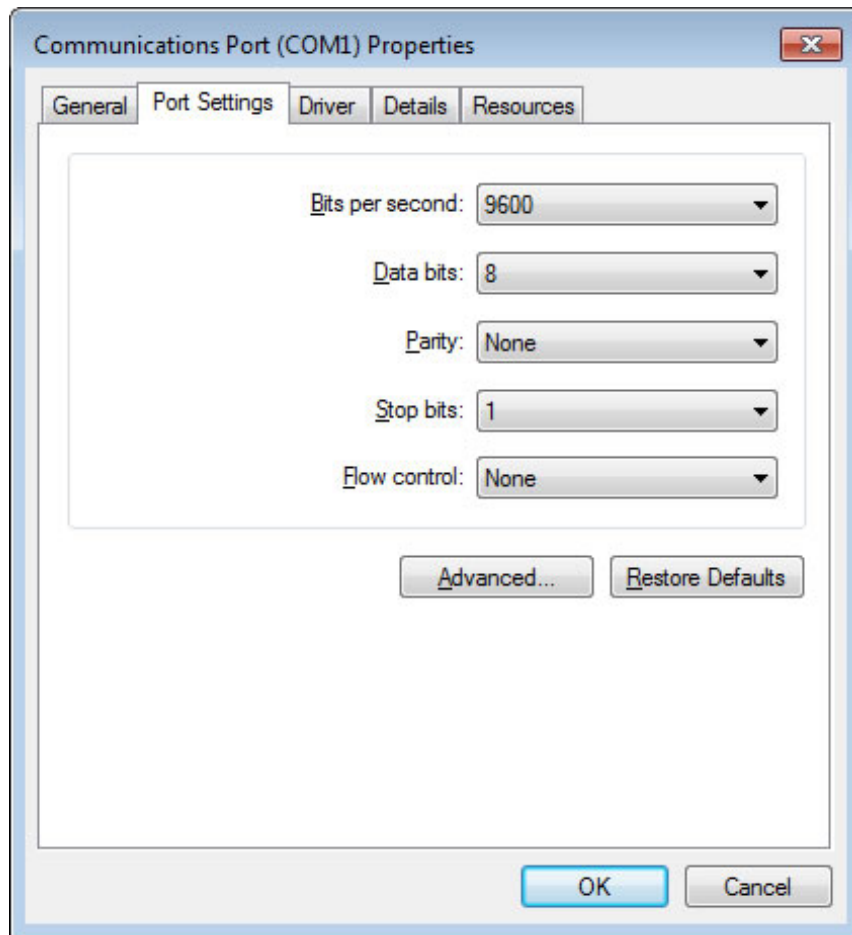

Figure 12. Port Settings tab
6. Click the **Port Settings** tab (see Figure 12).